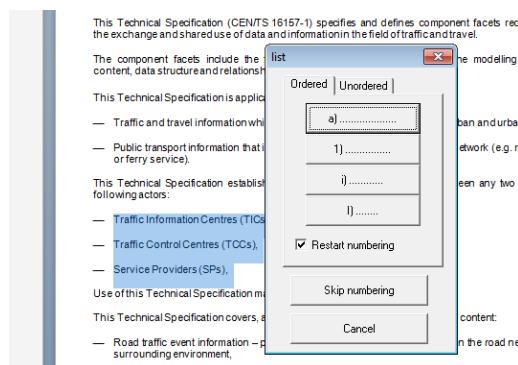

Figure 2 — Creating an ordered or unordered list using the STD-template
It is not sufficient to use the numbering or bullet function in Word. To create a list (1) select the text that needs to be listed and (2) select list in the STD Elements menu. A pop-up screen will appear showing all available listing options as shown in Figure 2.